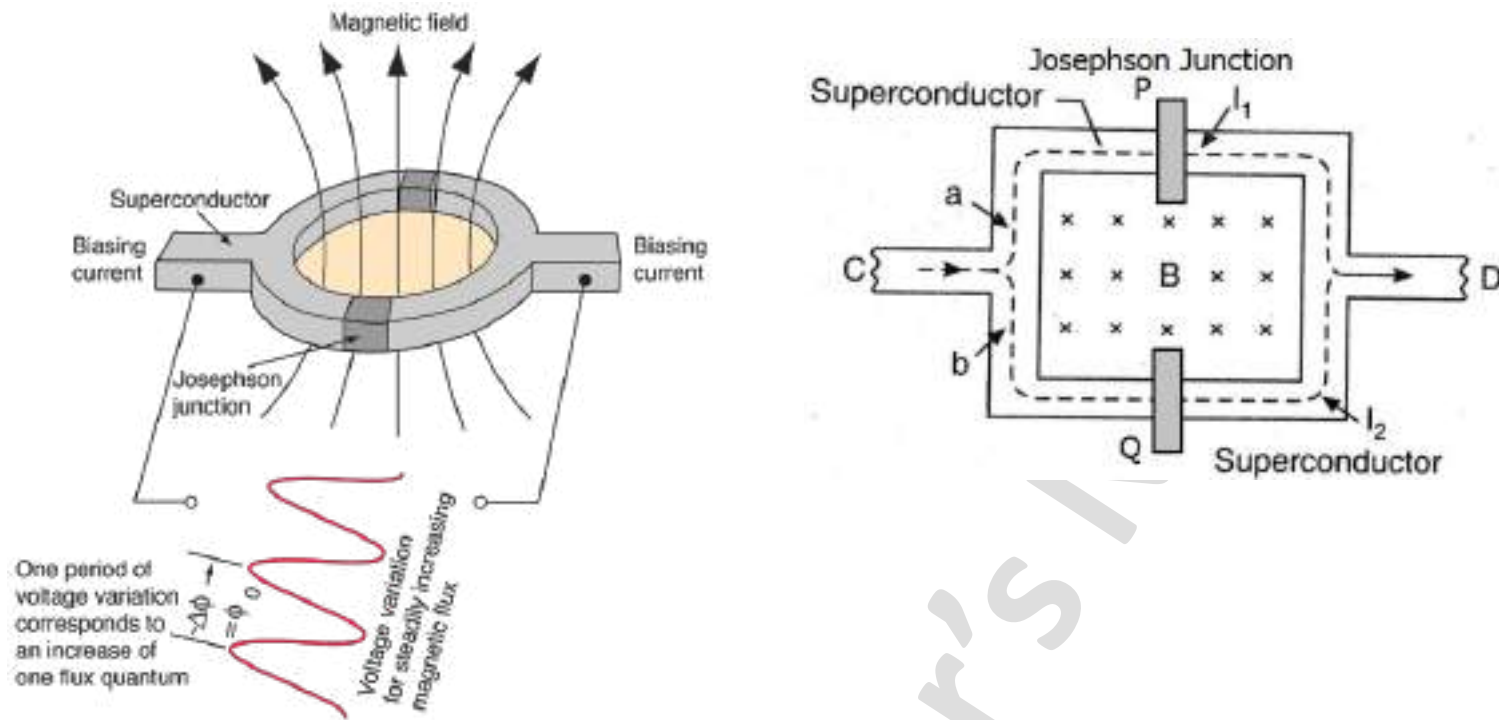

Fig. 13. a) Superconducting Loop. b) DC Josephson junctions P and Q
- Superconducting Loop – A closed superconducting circuit made of materials like niobium (Nb) or YBCO (Yttrium Barium Copper Oxide) as shown in Fig. 13. a). The tunnel barrier is oxidised onto lead or niobium surface. It consists of two Josephson junctions arranged in parallel.
- When a weak external magnetic field (B) is applied, it induces a magnetic flux (Φ) through the superconducting loop. Since the loop is superconducting, the total flux is quantized in multiples of Φ_0 . This changes the phase difference across the Josephson junctions, leading to oscillations in the superconducting
current. The resulting voltage oscillations are measured and converted into a corresponding magnetic field value. A constant dc super-current is applied to the SQUID as shown in Fig. 13. b).